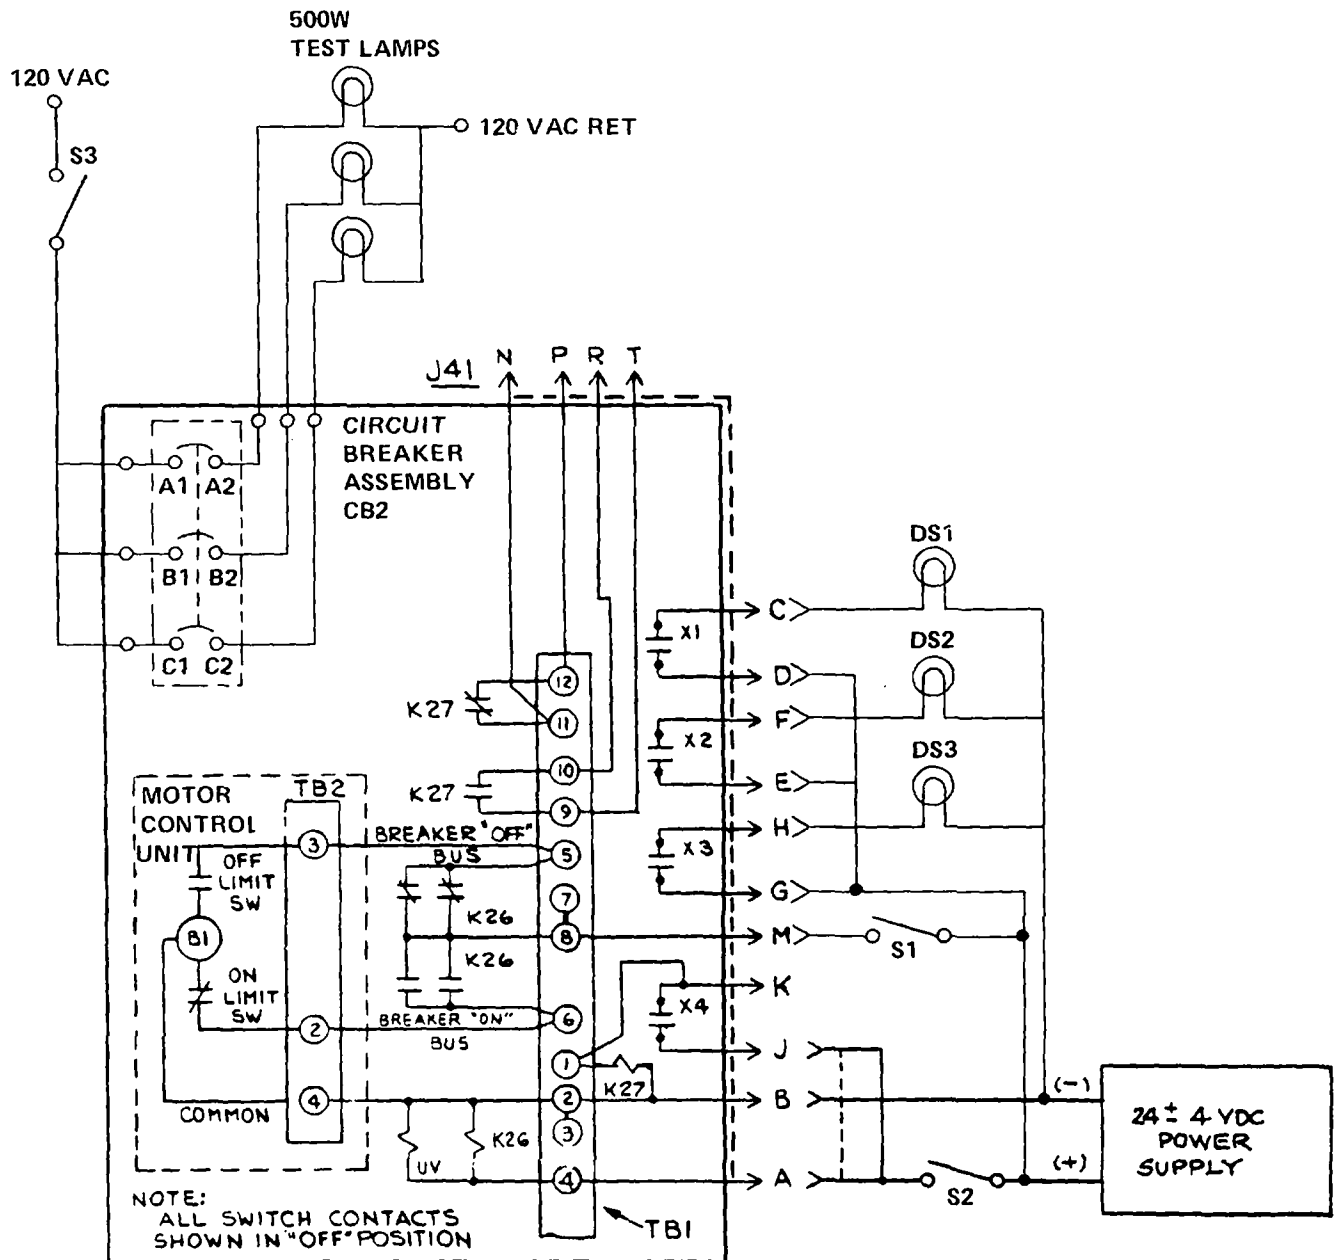

Figure 6-14. Circuit Breaker Assembly CB2, Test Setup
- a. Connect CB2 to test equipment shown in figure 6-14.
| 1. | With all test switches open, and motor control indicator in the green "OFF" position, close switch S1 and S2. | Motor B1 should energize, and indicator should position to red "ON". | Defective relay K26. | Test and replace K26 as required (refer to figure 6-14 for K26 schematic diagram). | |
| 2. | Open switch S1 and close switch S2. | Motor B1 should energize and indicator should position to green "OFF". | Defective relay K26. | Test and replace K26 as required (refer to figure 6-14 for K26 schematic diagram). | |
| 4. | Using ohmmeter, check for continuity between TB1-9 and TB1-10. | <p>DS1, DS2, and DS3 should each light.</p> <p>There should be continuity.</p> | <p>Defective auxiliary switch assembly.</p> <p>Relay K27 is probably defective.</p> | <p>Test and replace main circuit breaker, as required.</p> <p>Test and replace K27, as required, (refer to figure 6-14 for K27 schematic diagram).</p> |
| 5. | Open all test switches. Check for continuity between TB1-11 and TB1-12. | There should be continuity. | Relay K27 is probably defective. | Test and replace K27, as required, (refer to figure 6-14 for K27 schematic diagram). |